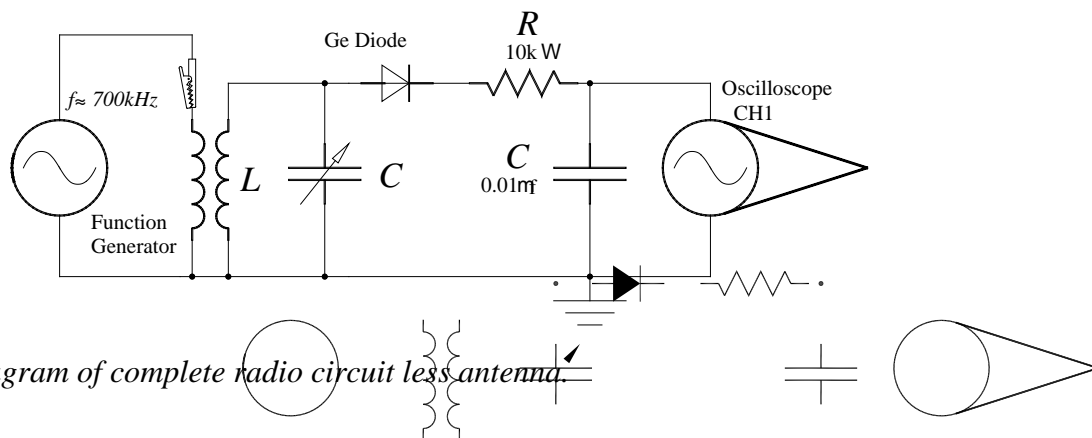

Figure 14 Diagram of complete radio circuit less antenna.
12) Make a low-pass filter by adding a capacitor as shown in Figure 14.